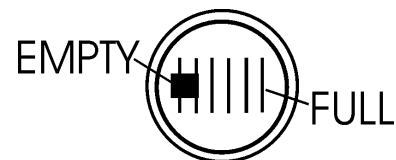

Figure 10. Fuel Gauge
3. Read the fuel gauge located on top of the fuel tank (Figure 10) to determine if the fuel level is low. If fuel is low, replenish with *clean unleaded fuel*.